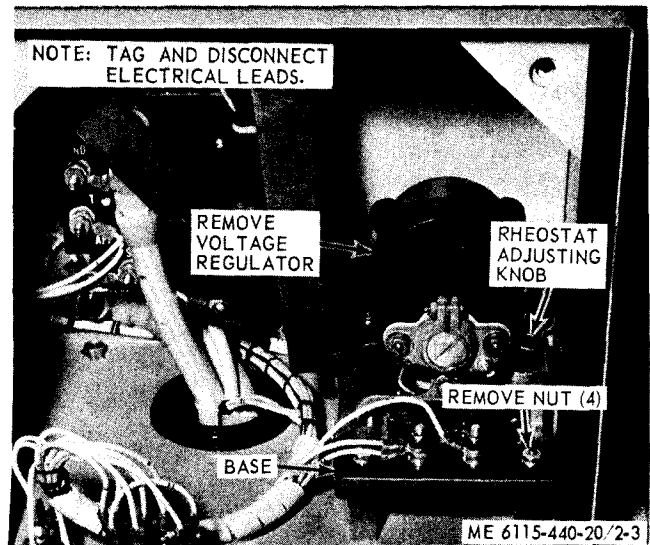

Figure 2-3. Voltage regulator, removal and installation.
a. *Removal.* Refer to figure 2-3 and remove the voltage regulator.
b. *Installation.* Refer to figure 2-3 and install the voltage regulator.
c. *Adjustment.* Turn the voltage regulator rheostat adjusting knob (fig. 2-3) with a screwdriver until the output voltage indicated on the voltmeter is correct (normal reading is 28 volts).